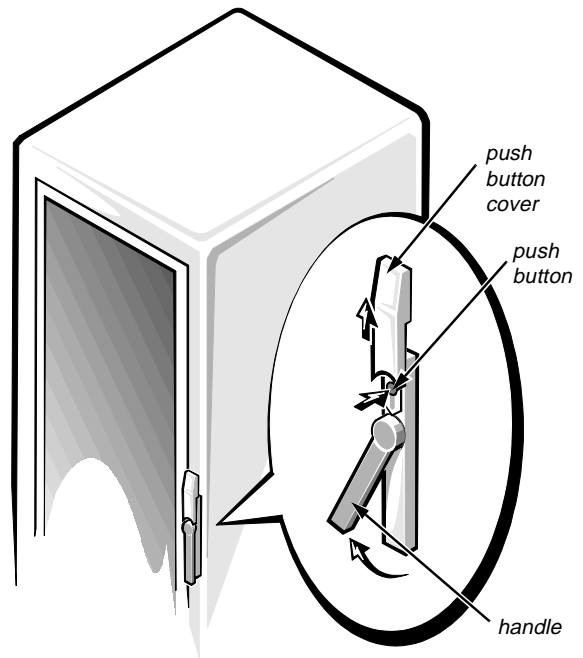

Figure 2-3. Opening the Latch on the Front Door
1. Open the latch on the front door (see Figure 2-3).